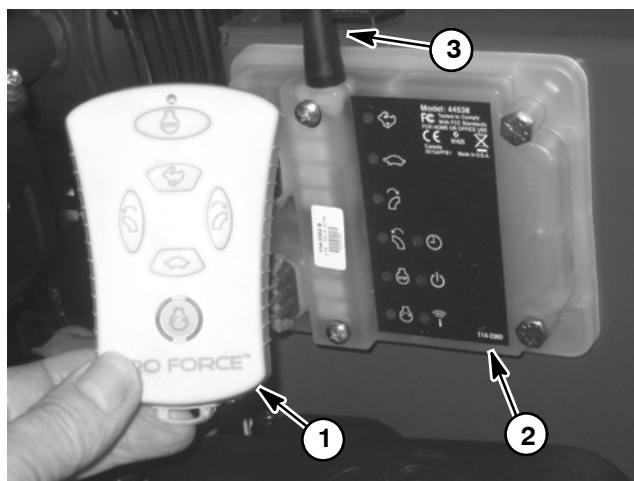

Figure 15
**NOTE:** Machines with a single channel controller can be identified by the external antenna on the control module (Fig. 15).
The remote transmitter is a solid state electrical device that sends radio frequency (RF) signal inputs to the machine control module for control of machine electrical operation (Fig. 15). The remote transmitter has sufficient range to send an RF signal to the control module from the tow vehicle operator position.